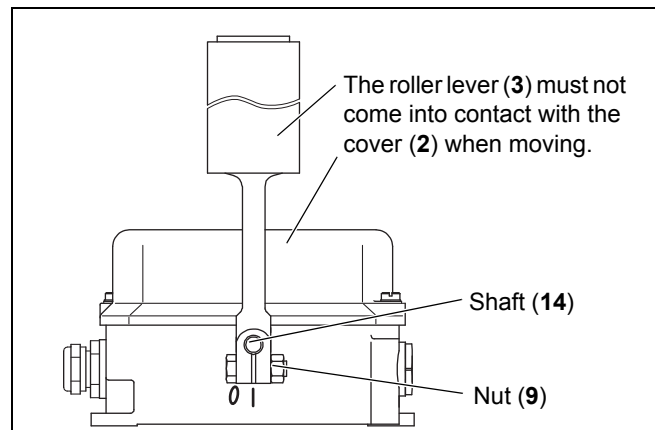

Fig. 7-1: Replacing the roller lever
2. Loosen the nuts (9) using a 16 mm open-end wrench and remove the roller lever (3) from the shaft (14) (see fig. 7-1).